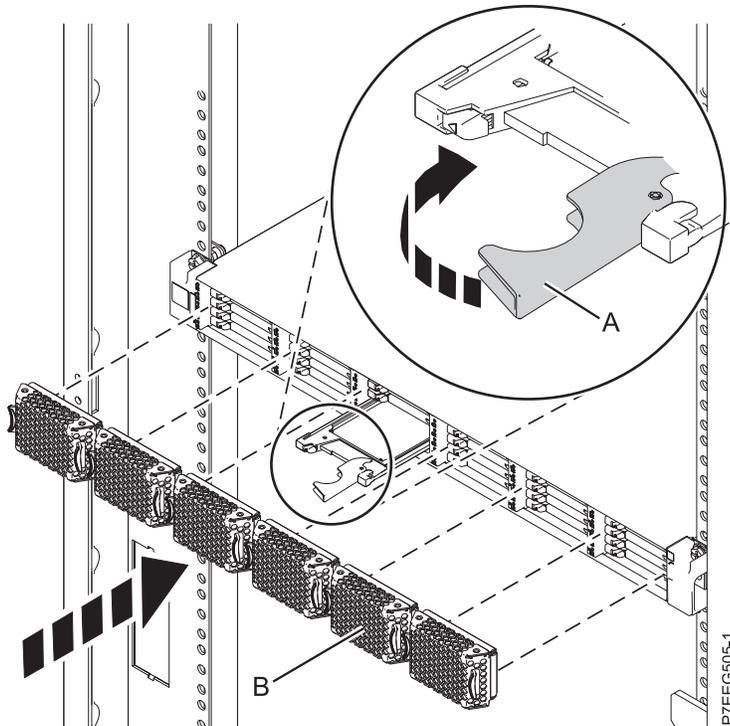

Figure 13. Installing a solid-state drive in the 58/88 PCIe storage enclosure
1. With the handle in the unlocked position, align the solid-state drive with the guide rails in the enclosure. See Figure 13 on page 24,
3. Rotate the handle (A) to the locked position, as shown in Figure 13 on page 24.
4. Install the bezel (B).